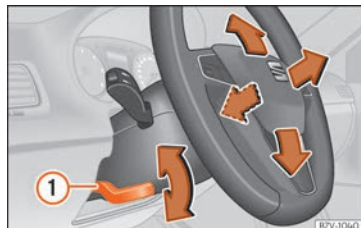

**Fig. 5** Lever in the lower left side of the steering column.
- Pull the »»» **Fig. 5 ①** lever down, move the steering wheel to the desired position and lift the lever back up until it locks.
- After adjusting the steering column, push the lever »»» **Fig. 5 ①** firmly upwards to ensure the steering wheel does not accidentally change position while driving.